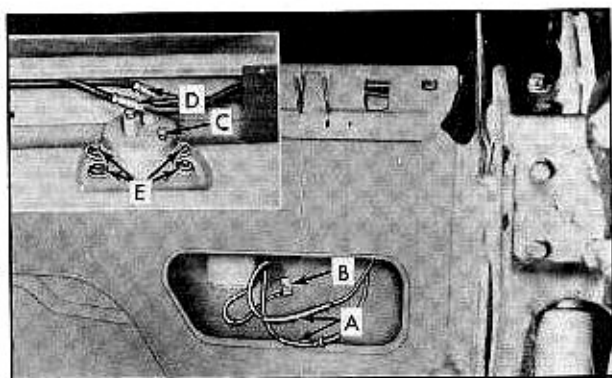

Fig. 3-89 Removal of Hydro-Lectric Motor and Pump
4. From inside of body, disconnect motor wires at "A" and ground wire at "B". Fig. 3-89.
6. Remove filler cap at "C", inset of Fig. 3-89, to vent the reservoir, thus avoiding the possibility of forcing the fluid from disconnected lines.
(72) Trouble Diagnosis